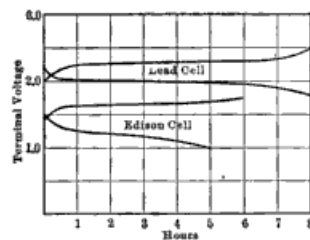

FIG. 176.—Charge and discharge curves of a lead cell and an Edison cell.
**189. The Voltage of an Edison Battery.**—Fig. 176 shows how the voltage of an Edison battery changes when the battery is charged and then discharged. The voltage characteristics are similar to those of a lead battery.
Edison battery, the volt efficiency is lower than in the lead cell, as may readily be seen from Fig. 176, and, since the ampere-hour efficiency is not any higher, the watt-hour efficiency of the Edison cell is also lower.